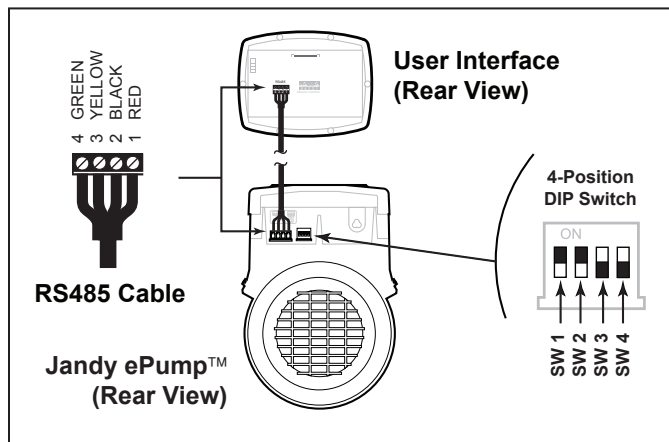

Figure 4. Wiring the User Interface to the Jandy ePump Variable Speed Pump
- Set the DIP switch settings for the pump controller with the 1 and 2 in the ON position and 3 and 4 in the OFF position. See Figure 4.